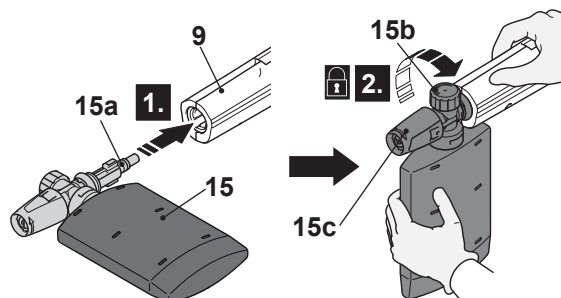

Fig. 14
2. Align and insert the tongues (15a) of the soap tank (15) with the grooves of the spray gun (9) connection port (Fig. 14, step 1).